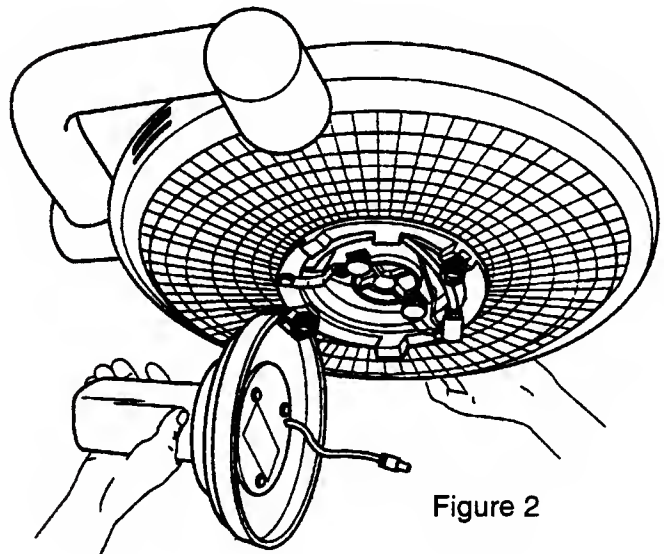

Figure 2
6. Fasten the mounting plate/camera assembly to the 5000 cupola (fig. 2).